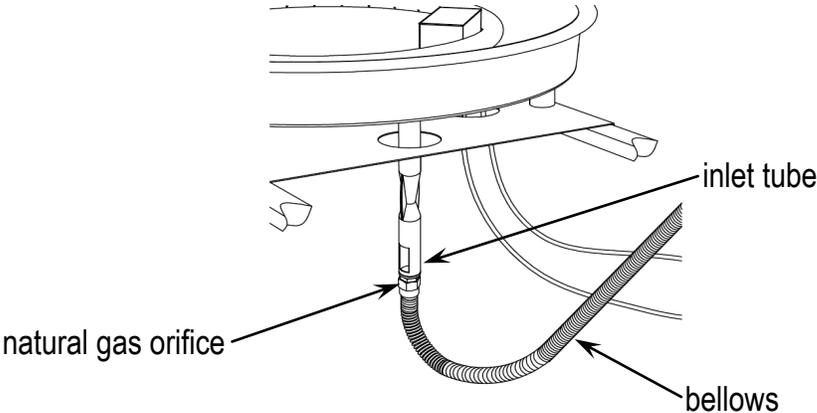

Figure 14
3. Replace the propane orifice with the natural gas orifice, screw the natural gas orifice with the bellows tightly, then connect and tighten the natural gas orifice with inlet tube (see Figure 14). Natural gas orifice (dia4.18mm size) is painted with black mark.